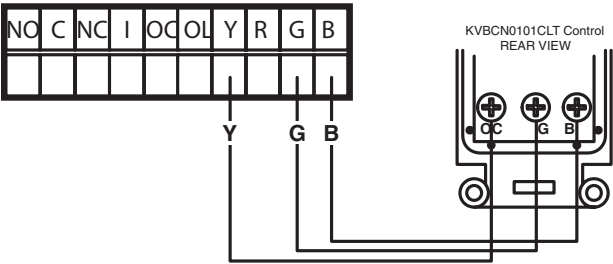

Fig. 2 - Wall Control Wiring
Step 4—Using Fig. 2 as a guide, connect the electrical wiring.